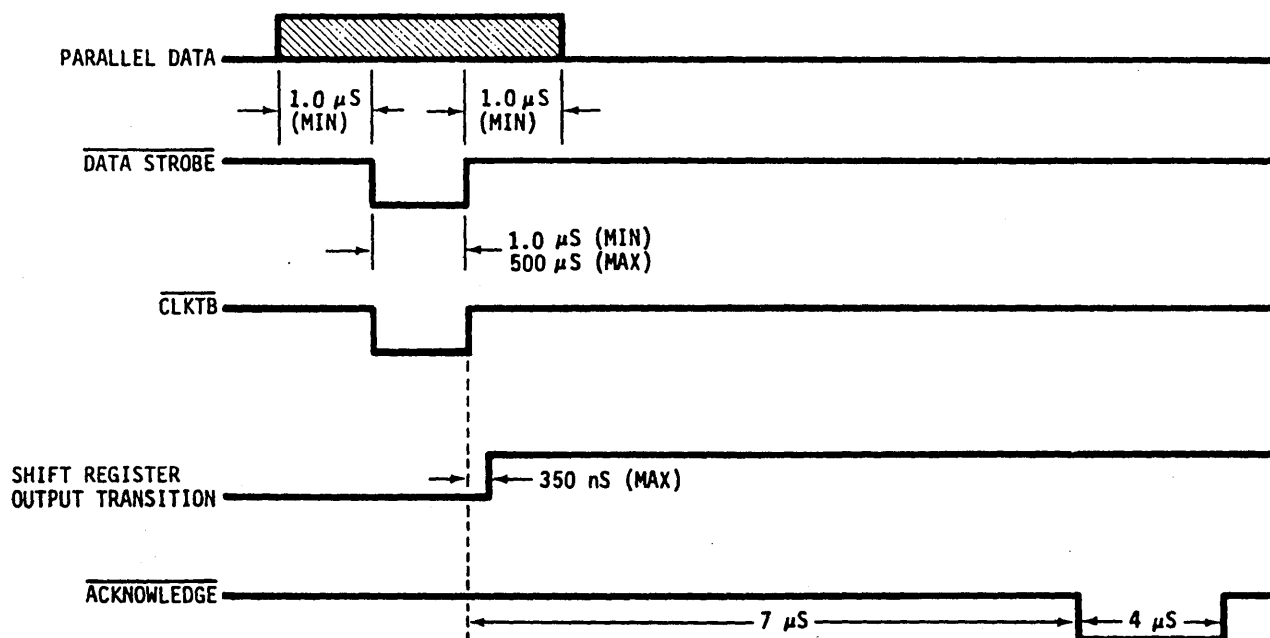

Figure 4-7. INPUT DATA TIMING - NO BUSY CONDITION
4.4.1 GENERAL (FIGURE 4-7/4-8)
The diagram in Figure 4-7 shows the timing involved in transferring data, which does not cause a busy condition.
As shown in the timing diagram of Figure 4-7, the data lines must be stable at least 1.0 μsec before and after DATA STROBE, and the DATA STROBE pulse must be at least 1.0 μsec wide. As a standard feature, the 101A will not recognize a data strobe during the acknowledge delay interval. As an option, however, a non-gated data strobe is available.
4.4.5 CLOCKING INPUT DATA INTO THE BUFFER (FIGURE 4-7, 4-12)